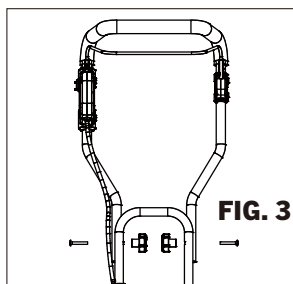

FIG. 3
1. Connect the upper handle frame assembly to the middle frame with two of the supplied handle knobs and bolts as shown (Fig.3).